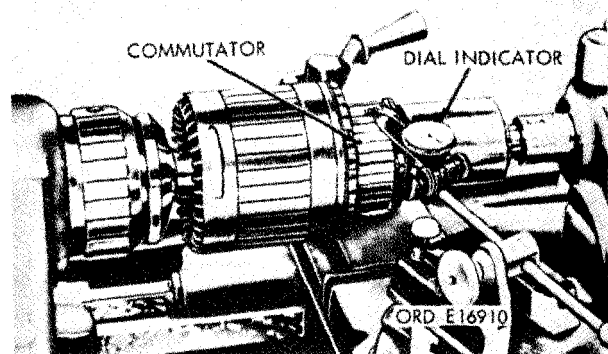

FIGURE 22. CHECKING COMMUTATOR RUNOUT.
- (4) Inspect armature shaft and commutator for runout using a lathe or "V" blocks and a dial indicator (fig. 22). If the runout does not conform to wear limits (par. 41f), the commutator must be resurfaced providing the diameter will not be below the limits specified in wear limits. If refinished diameter of commutator exceeds the limit, the armature must be replaced.
- (5) Inspect armature shaft splines for wear or damage. Replace the armature if the splines are defective.
- (6) Inspect the commutator contact surface. A satisfactory condition is indicated by an even, highly burnished, dark-copper